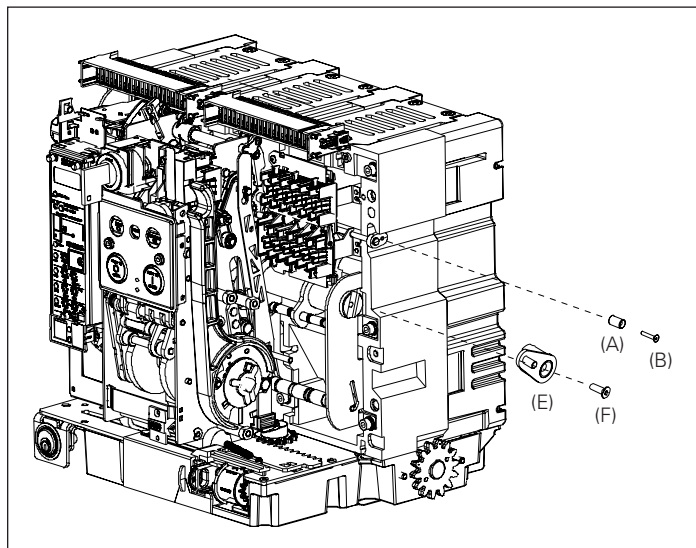
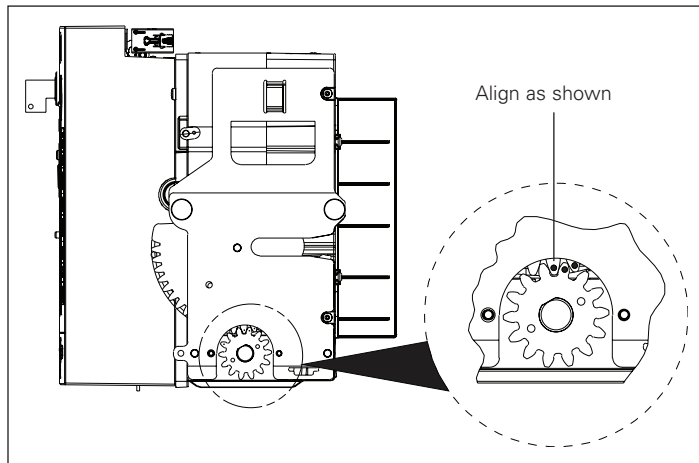

Figure 6. Details for Step 3 and 4
Figure 7. Details for Step 4
Install the drive arm (E) to the end of the pole shaft using an M6 x 35 mm flathead screw (F). Apply LoctiteT Blue 242 to ensure that the screw cannot come loose during operation. The drive arm should be oriented as shown in **Figure 6**. Torque to 7,3–9,6 N·m (65–85 in-lb).
Install the trip pin (A) to the trip bar using an M3 x 16 mm flathead screw (B) as shown in **Figure 6**. Apply Loctite Blue 242 to ensure that the screw cannot come loose during operation. Use a wrench to hold the trip lever during installation. Torque to 0,3–0,6 N·m (3–5 in-lb). Replace levering device side plate as shown in **Figure 7**.